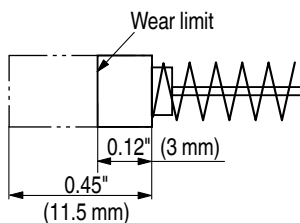

Fig. 10
4. Inspecting the carbon brushes (Fig. 10)